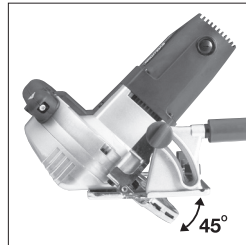

Fig. 9
- Tilt the saw body to the required angle (**Fig. 9**).